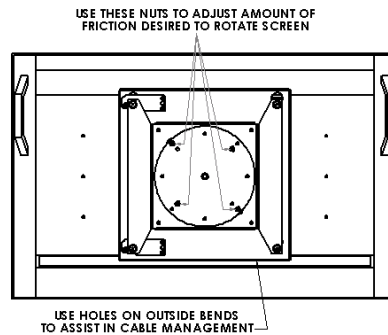

Figure 7
5. Set desired amount of friction for rotating screen by tightening or loosening nuts (4) on back side of PAC-400. (See Figure 7).
10. Use holes on outside bends to tie wires for cable management. (See Figure 7).